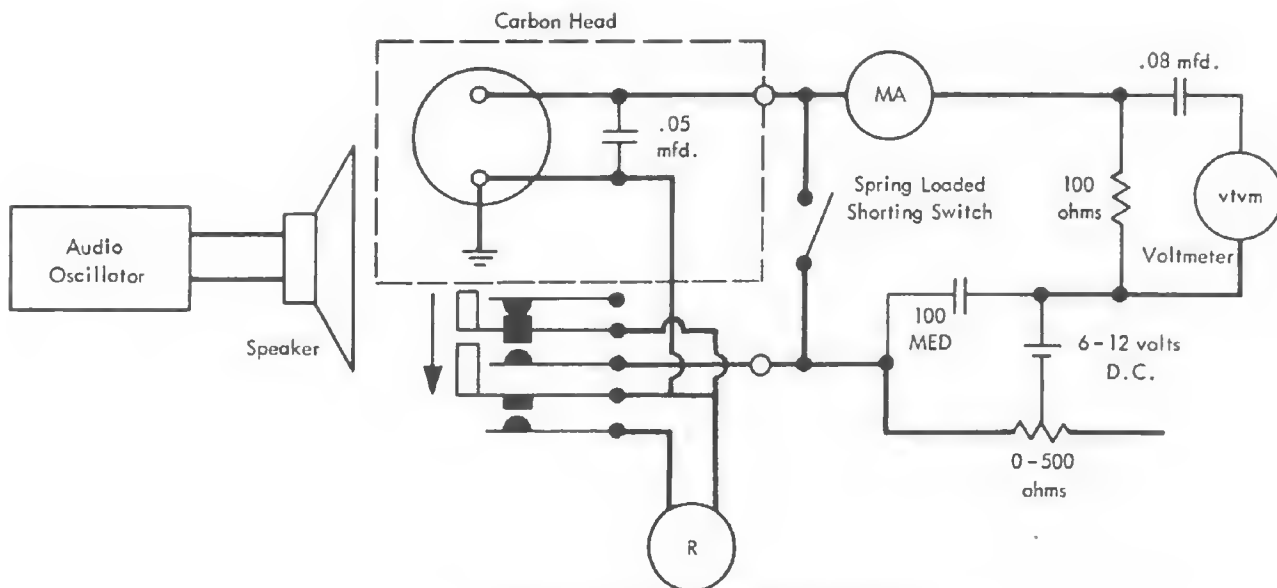

FIGURE 2 - Test set-up and wiring diagram
**8. Test Procedure.** (See Figure 2)
**10. Check of Microphone Output.** The best procedure for testing the microphone is to compare its output with one known to be operating properly, using the test set-up shown in Figure 2. Check the output voltage as follows:
**11. Check of Operation.** This test requires the use of an audio oscillator and speaker as shown in Figure 2.
- a. Connect a test microphone as shown in Fig. 2 and adjust current as in step a. of the output test.